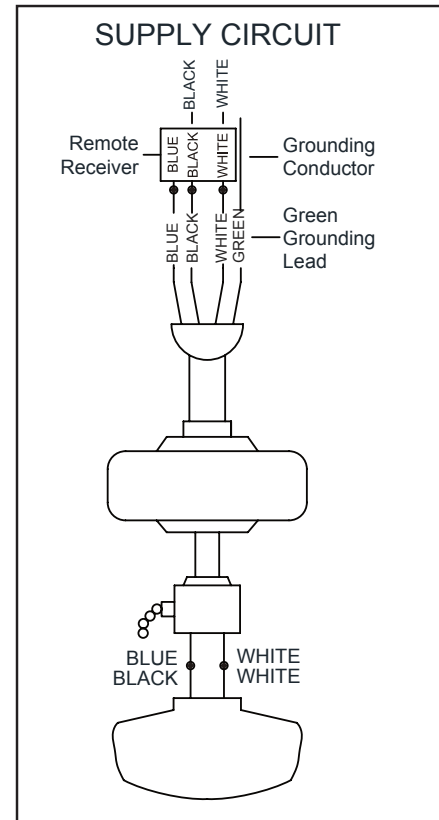

Figure 11
Follow the steps below to connect the fan to your household wiring. (Figure 11)
1. Connect the **GROUND** conductor of the 120v supply (this may be a bare wire or a wire with green colored insulation) to the **GREEN** ground lead(s) of the fan. (Figure 11)
2. Connect the fan motor **WHITE** wire to the receiver **WHITE** wire using a wire nut. (Figure 11)
3. Connect the fan motor **BLACK** wire to the receiver **BLACK** wire using a wire nut. (Figure 11)
4. Connect the fan motor **BLUE** wire to the receiver **BLUE** wire using a wire nut. (Figure 11)
5. Connect the receiver **BLACK** wire to the supply **BLACK** (hot) wire using a wire nut. (Figure 11)
6. Connect the receiver **WHITE** wire to the supply **WHITE** (neutral) wire using a wire nut. (Figure 11)